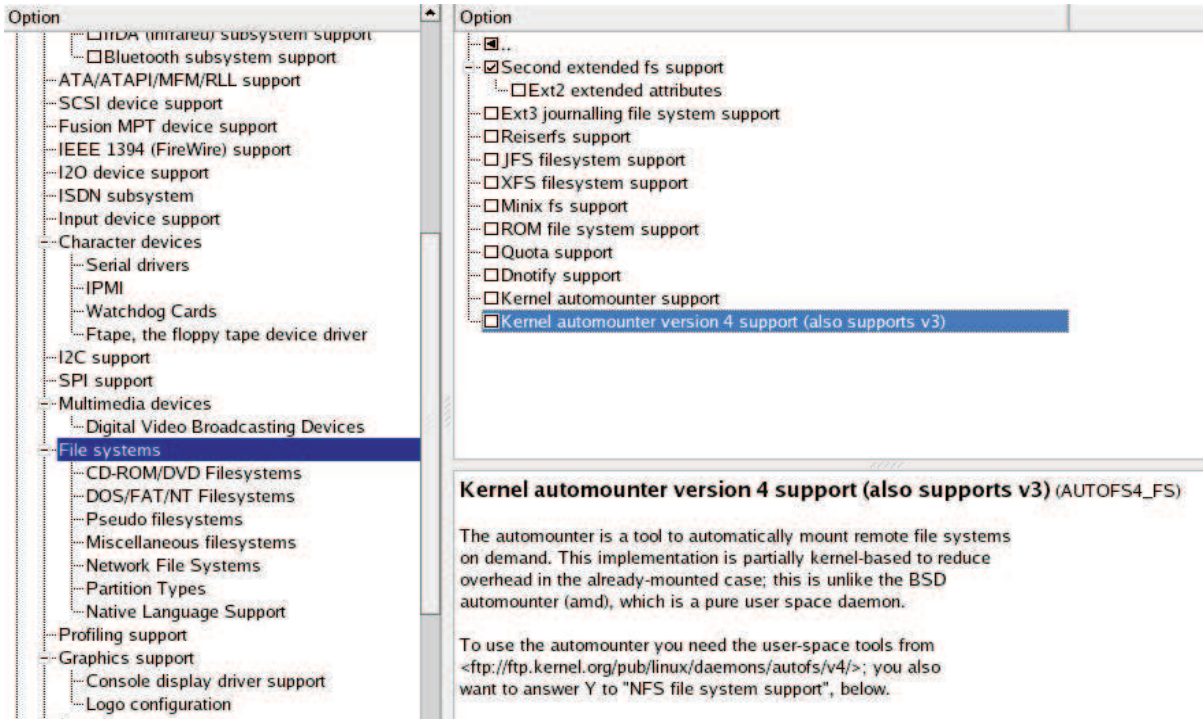

Figure 2. Disable File Systems
11. Under *Device Drivers*→ *File systems*, uncheck the *Ext3 journalling file system support*, *XFS file system support*, *Minix fs support*, *Dnotify support*, and *Kernel automounter version 4 support* boxes to disable file system supports. Do not uncheck ext2 file system support, as the ext2 file system is used in the initial RAM disk. See Figure 2.